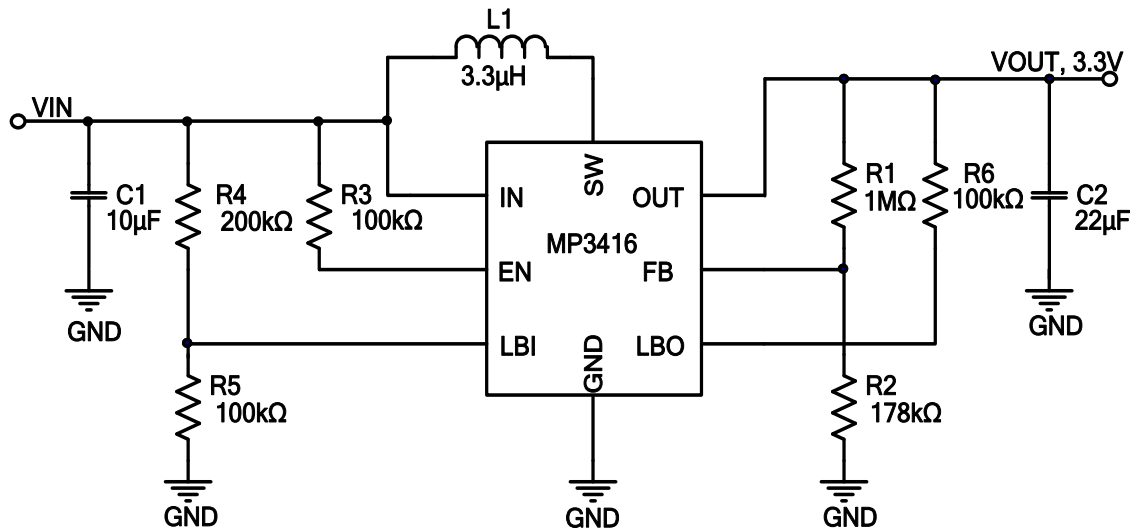

Figure 5: Typical Schematic for 3.3V Output
6) Tested under a 0.79A switching current limit. The test schematic is the same as Figure 5 when V_{OUT} is 3.3V and the same as Figure 6 when V_{OUT} is 5V.
The typical application circuit for $V_{OUT} = 3.3V$ in Figure 5 shows the detailed application schematic and is the basis for the typical performance waveforms. For more detailed device applications, please refer to the related evaluation board datasheets.